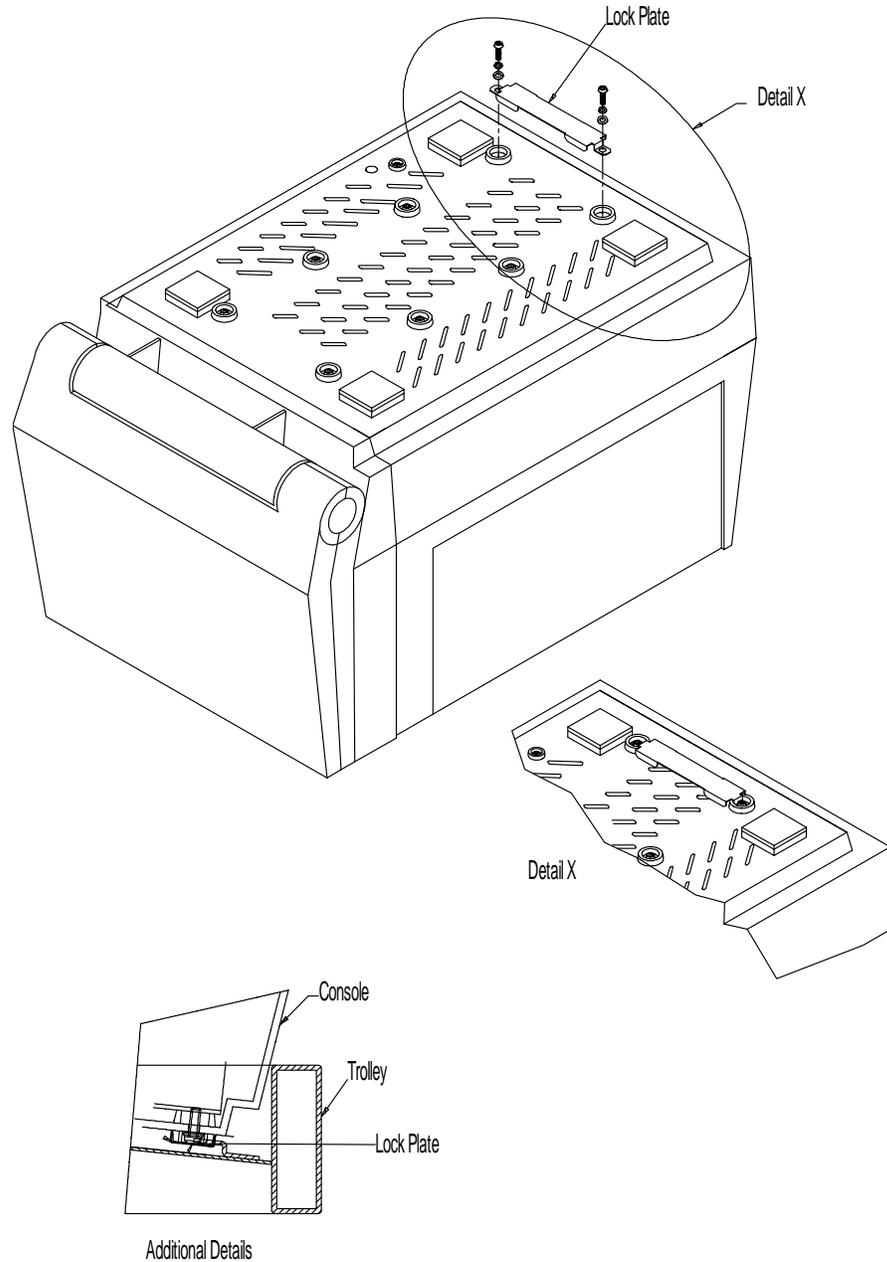

Figure 3-21 Installation of Trolley
- 3.) Remove two M4X10 screws from the base of LOGIQ™ $\alpha$  100/LOGIQ™ 100 PRO and fix lock plate. Refer Figure 3-21
- 4.) Place the unit with lock plate fixed on Trolley, ensure that lock plate gets into the projection on the trolley. Refer Figure 3-21